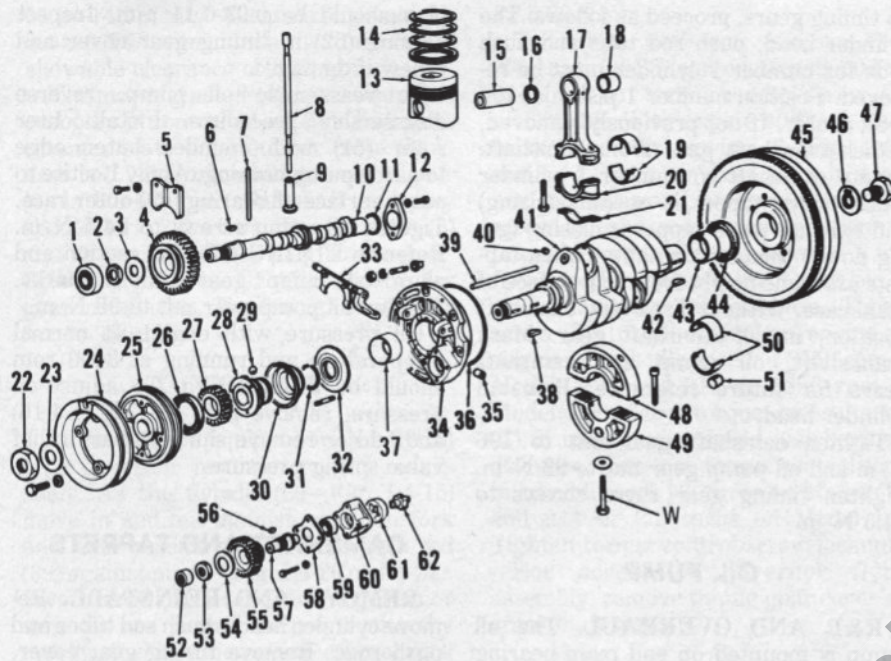
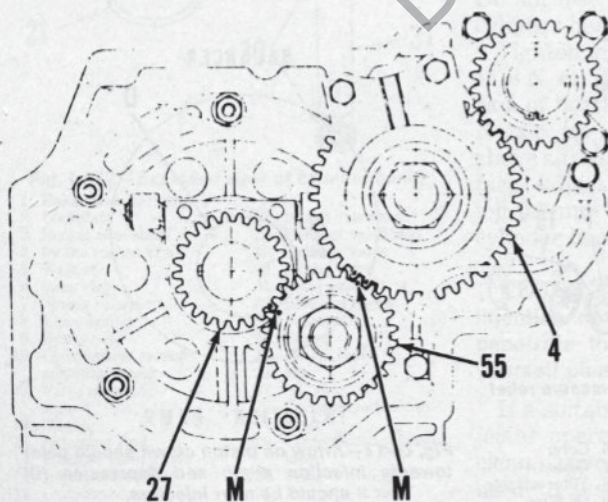
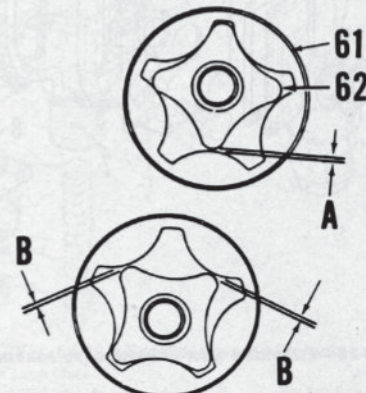
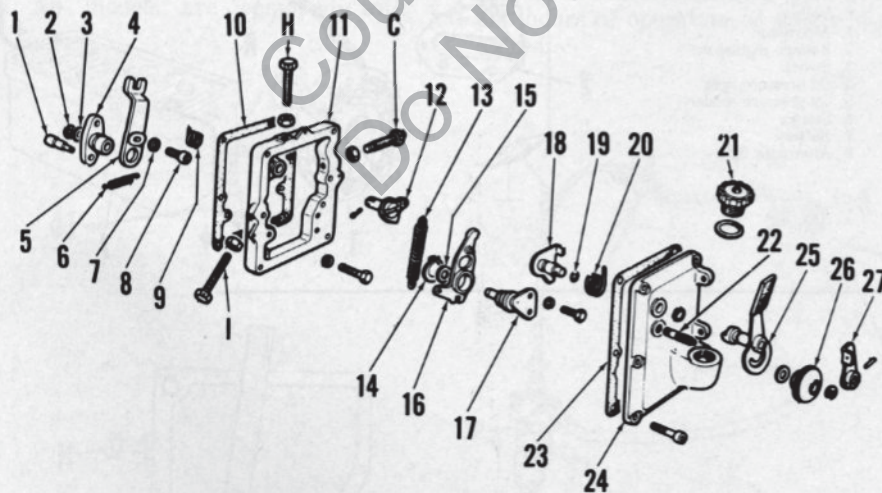

Fig. L4-15 — Exploded view of crankshaft, camshaft and oil pump assemblies.
Fig. L4-18—View showing location of timing marks (M) on camshaft gear (4), crankshaft gear (27) and oil pump gear (55).
Fig. L4-19—Refer to text for clearances (A&B) between oil pump outer rotor (61) and inner rotor (62).
Fig. L4-20—Exploded view of governor and throttle control linkage.
Use a suitable puller to remove gears. Note that retainer (5—Fig. L4-15) must be removed before pulling off camshaft gear (4). When installing camshaft gear, place gear on shaft so retainer groove is out. Align timing marks (M—Fig. L4-18) on models so equipped, when installing gears. If timing marks are not present
R&R AND OVERHAUL. The oil pump is mounted on end main bearing support (34—Fig. L4-15). To remove pump, remove timing gear cover and oil pump gear (55). Unscrew pump housing screws and disassemble pump.
Refer to Fig. L4-19 and measure clearance between inner and outer rotors (61 and 62). Clearance (A) should be 0.01-0.06 mm with a maximum allowable clearance of 0.10 mm, and clearance (B) should be 0.02-0.10 mm with a maximum allowable clearance of 0.20 mm. Width of inner and outer rotors should be 14.95-14.97 mm and difference in rotor widths must not be greater than 0.02 mm. Outer rotor outer diameter is 40.54-40.57 mm. Pump housing bore is 40.60-40.63 mm. Clearance between outer rotor and pump housing bore should be 0.03-0.09 mm with a maximum allowable clearance of 0.13 mm. With pump cover (60—Fig. L4-15) and bearing retainer (58) installed and retaining screws torqued, inner rotor end
REMOVE AND REINSTALL. Remove cylinder heads, push rod tubes and push rods. Remove timing gear cover, gear retainer (5—Fig. L4-15) and camshaft gear (4). Remove fuel injection pump. Using suitable tools, pull valve tappets away from camshaft and secure tappets so they will not fall into crankcase when camshaft is removed. If tappets fall into crankcase, then crankshaft must be removed so tappets can be reinstalled. Withdraw camshaft from crankcase. Remove oil pan for access to tappets.
All models are equipped with a flyball type governor mounted on the crankshaft. As the flyballs (29-Fig. L4-15) move in and out against cup (30), fork and lever assembly (33) forces push rod (39) against pin (1-Fig. L4-20 or L4-21). Pivot flange (4), lever (16) and governor arm (5) are forced to rotate thereby moving fuel injection pump control rack pin (P). Throttle lever (25) operates through pivot arm (12) and governor spring (13) to control engine speed.
To adjust governor, remove cover (24-Fig. L4-20) and on Models 904 and 914, back out torque control screw (C) 5 or 6 turns. With engine stopped, check to be sure start spring (6-Fig. L4-20 and L4-21) has removed slack in governor mechanism. Loosen governor arm screw (8) and move governor arm (5) towards torque control screw (C) until fuel injection pump control rack pin (P) is in maximum fuel position. Tighten screw (8). Install control cover and run engine at high idle speed of 3150 rpm for Models 904 and 914 or 2350 rpm for Model L20. Turn torque control screw (C) until engine speed just begins to decrease, then turn torque control screw in an additional 1½ turns on Models 904 and 914 or 2.2 turns on Model L20. Tighten torque control screw locknut.
R&R AND OVERHAUL. The crankshaft rides in sleeve bearings in the crankcase bulkhead and end bearing support (34-Fig. L4-15), and in insert bearings in center support halves (48 and 49).
Crankshaft end play should be 0.15-0.25 mm and is not adjustable. End support (34—Fig. L4-15) width measured at (B) should be 33.90-33.95 mm. Width of gear end main bearing journal measured from shoulder to thrust face as shown at (C—Fig. L4-23) should be 34.10-34.15 mm. A worn end support or crankshaft will cause excessive end play.